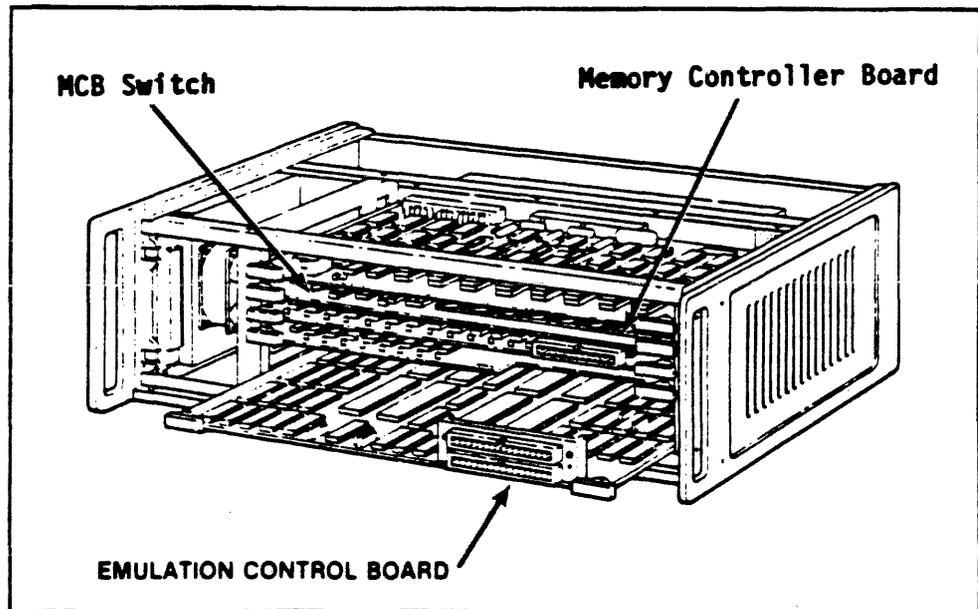

Figure 2-4.
2. Install the proper emulation control board in the mainframe as shown in Figure 2-4. See the table below to determine the correct board for the microprocessor you are working with (your emulator will arrive from the factory with the correct board installed if you ordered only one family support; Z8000, 68000, etc.).